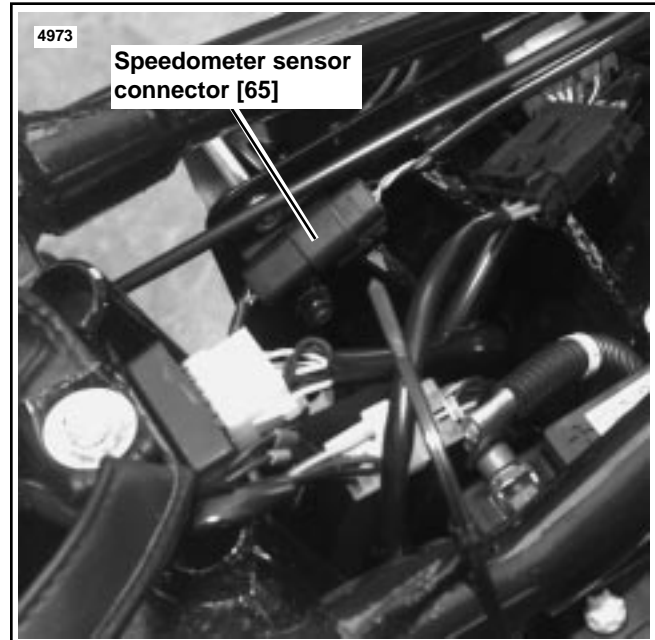

Figure 1. Speedometer Sensor Connection [65]
See Figure 1. The 3-place speedometer sensor connector [65] is located on the frame beneath the seat. Remove connector from t-stud and disconnect. Cut cable tie holding sensor wires to right rear frame tube.
5. See Figure 1. Route speedometer sensor cable into position under fuel tank and seat and connect 3-place connector [65]. Place speedometer sensor cable into clips underneath fuel tank. Replace cable ties holding connector [65] to frame.